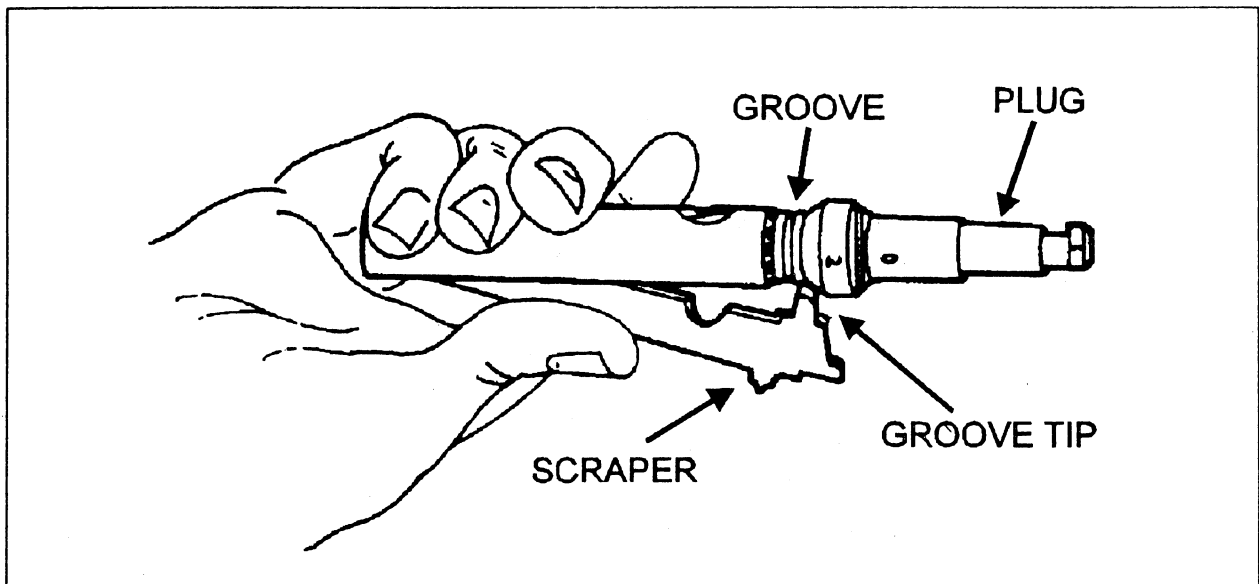

Fig 1-24. Cleaning the second groove.
- (3) Pivot the scraper blade. Clean carbon from the second groove (see fig 1-24).